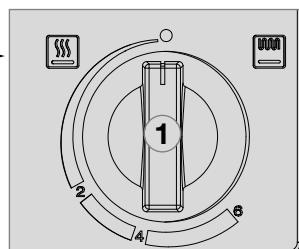

Fig. 47
- Put the operating knob (1) into position „●“ (Fig. 47).